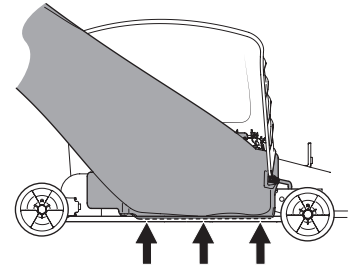

Figure 22
**IMPORTANT!** Be certain that the bottom of the discharge chute is located inside of the lip of the deck opening, as shown in Figure 22.